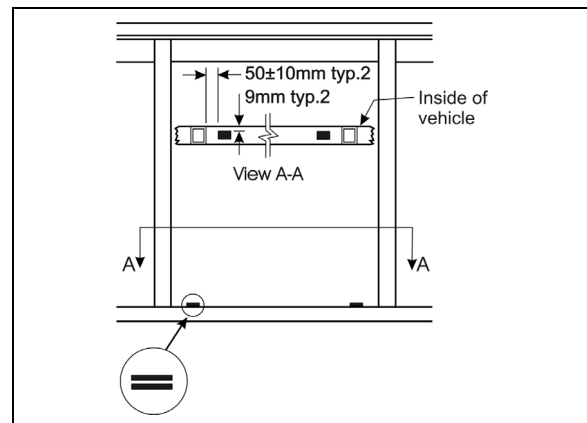

FIGURE 61: AWNING WINDOW - RUBBER BUMPER INSTALLATION
2. Glue on the structure horizontal member, 4 rubber bumpers (#5061020), placing them 2 by 2 to have a total thickness of 1/16" (FIGURE 61).